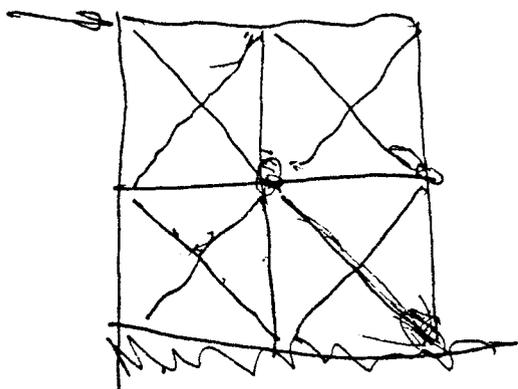

Figure 5
**Degenkolb:** The other thing that we had been talking about is this [drawing Figure 5]: take the same frame—make it two stories—and we can put diagonal braces in there, and that again can take the load because the triangular diagonals keep the rectilinear shape rectangular. The moment frame system allows it to squash. Now, Figure 5 can also be done in vari-
**Degenkolb:** Right. Now you'll notice in all of these that I have made the joints all meet at a point, concentrically. That's concentric bracing. Where it has been used, inevitably these braces buckle or pull apart in earthquakes. The Ferry Building [in San Francisco] had this type of bracing [pointing to Figure 5] with wrought iron rods (tension rods) and they pulled out of the joint in here [small circles on Figure 5]. However, in no case of the steel buildings where these braces are used, do I know of a failure.
Typically the "mill" buildings—the big one-story buildings with cranes and a lot of equipment and machinery, or warehouses that are made out of corrugated iron and metal frames—are usually braced with X-bracing (Figure 5). Or if it's heavy, they may have one of the other types. Invariably the X-bracing will be stretched and pulled. Example, on the Olive View Power Building in the San Fernando earthquake. Remember the flat bars that were X-braced. One broke and one was stretched. All right, the X-bracing failed, but the building stood up. It was damaged, of course, but it stood up.